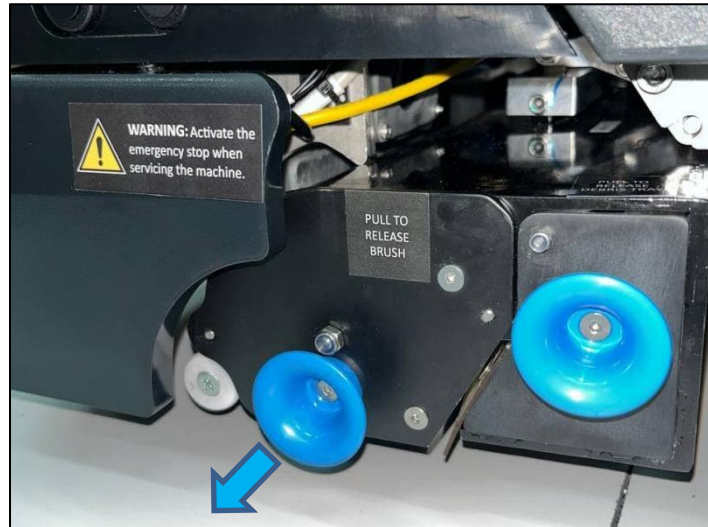

Fig. 1
1. Detach the brush cover on the right side of the robot by pulling the knob (Fig. 1).